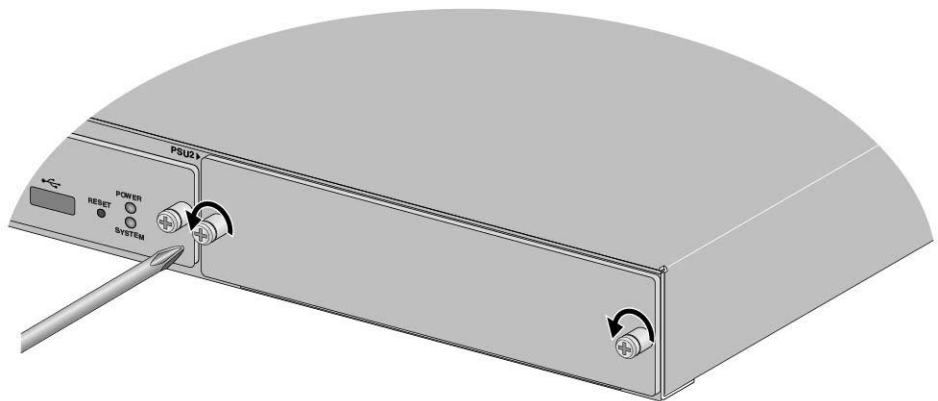

Figure 34. Loosening the Captive Screws on the Blank Cover on a Power Supply Slot
2. With a cross-head screwdriver, loosen the two captive screws on the blank cover over the power supply slot. Refer to Figure 34.